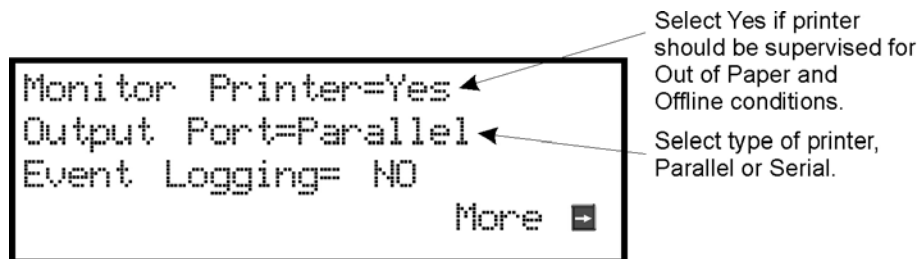

Figure 4.29 Selecting Printer and Output Port Options
5. Press ENTER to bypass the next two screens. A screen similar to the one shown in Figure 4.29 will display.